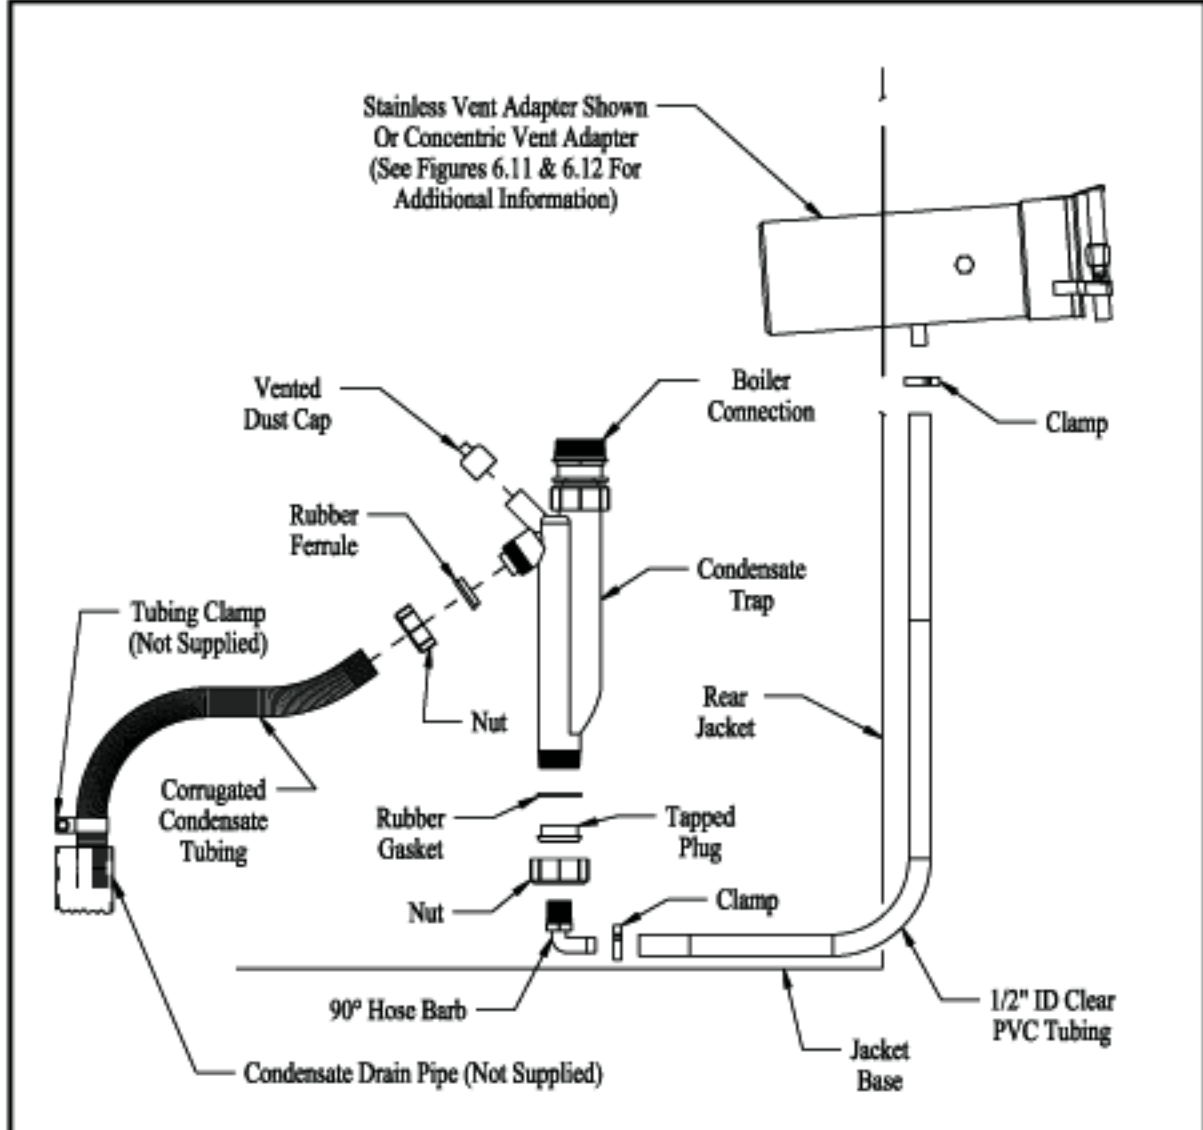

FIGURE 6.23: CONDENSATE PIPING ARRANGEMENT
All condensate which forms in the boiler and vent system collects in both the sump under the heat exchanger and the vent adapter (either stainless or concentric vent adapters) and leaves the boiler through the condensate trap. This trap allows condensate to drain from the sump and the vent adapter while retaining flue gases in the boiler. A length of corrugated drain hose is supplied with the boiler and is connected to the trap as shown in Figure 6.23. This hose should be routed through the back of the boiler. Route this hose to a drain or other suitable point for disposal. Note the following when disposing of the condensate:
- a) If the condensate drain line must be extended, construct the extension from PVC or CPVC pipe. Insert the hose provided with the boiler into the end of the extension as shown in Figure 6.23.
- g) The vent shown in Figure 6.23 must be left open for the trap to work properly.